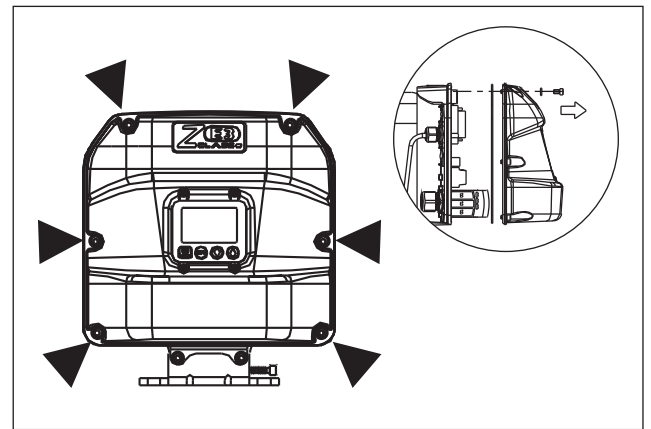

Figure 4, Electrical Enclosure Front Cover
2. Loosen and remove the six screws and flatwashers securing the electrical enclosure cover. Remove the cover from the electrical enclosure. See Figure 4.
17. Position the cover on the pump electrical enclosure. Reinstall the six flatwashers and screws. Tighten all screws snug tight. See Figure 4.